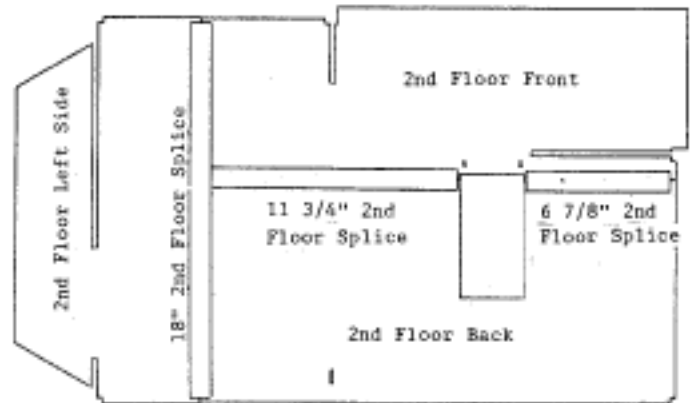

Figure 12
3. Lay the floors good side down on the table. Glue the splices as in Figure 12.